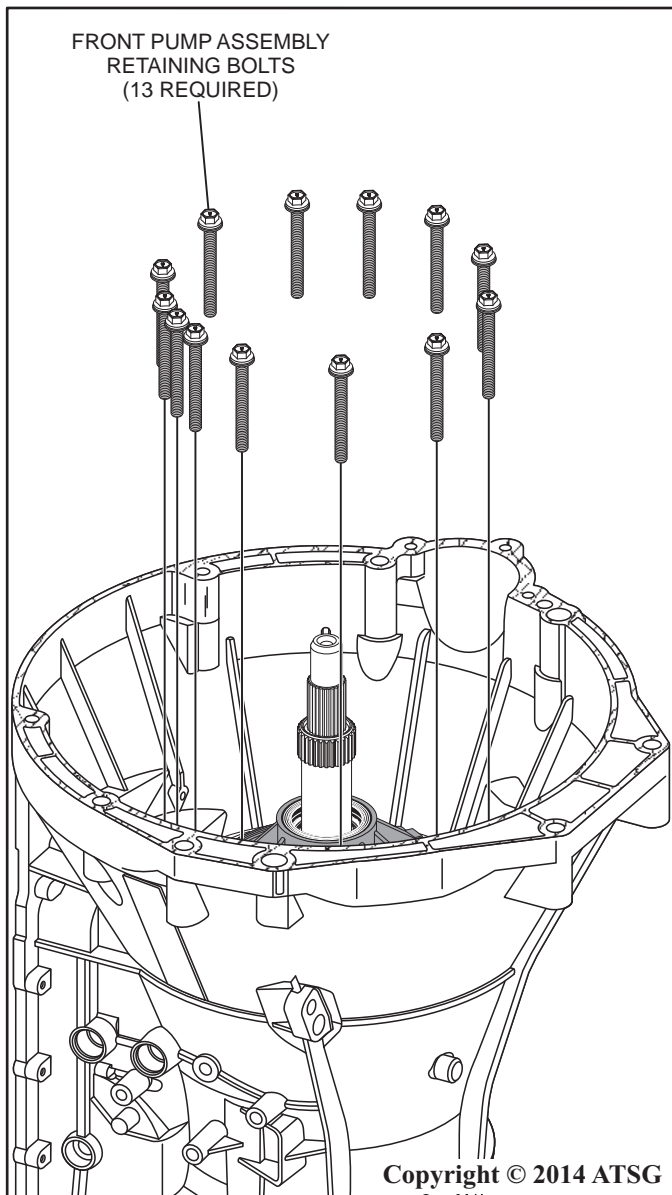

Figure 47
24. Remove the 13 front pump assembly retaining bolts as shown in Figure 47.